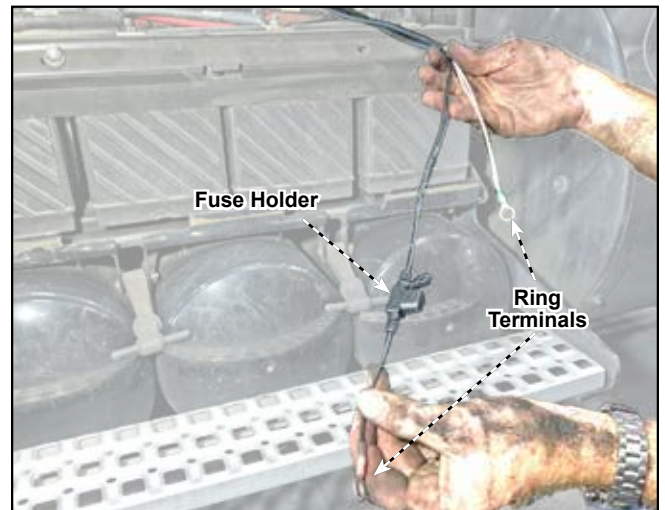

Figure 6: Connections to power source and ground
3. Make connection on the supplied fuse holder to the (+) wire on the cable. Connect supplied ring terminals to the supplied cable. See Figure 6.